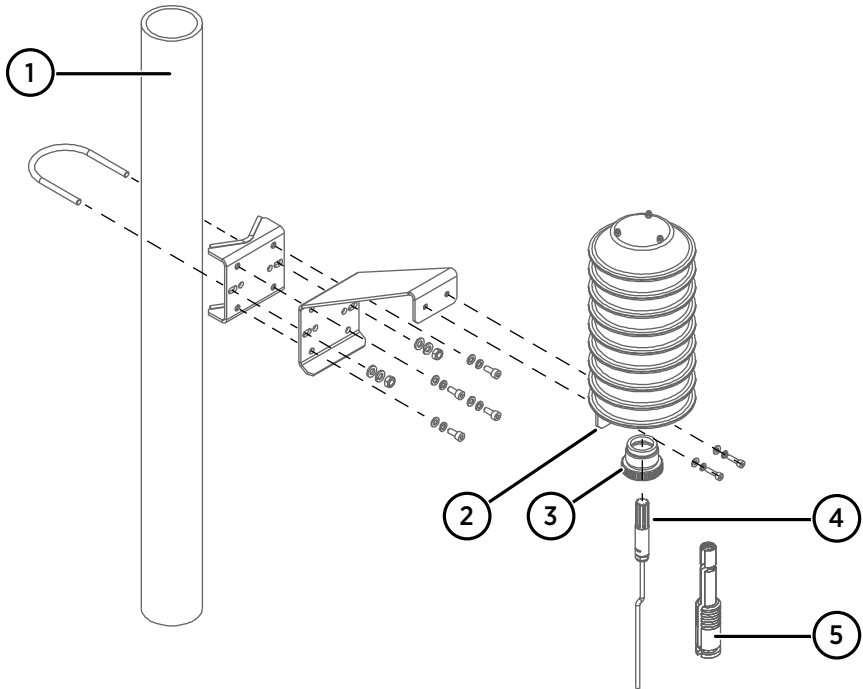

Figure 27 Mounting DTR502B on a pole mast
- 1. Mount the solar radiation shield in the measurement location using the provided mounting accessories, screws, and washers. You can mount the radiation shield to a pole mast as shown in Figure 27 \(page 51\), or to a horizontal beam directly from its support plate.